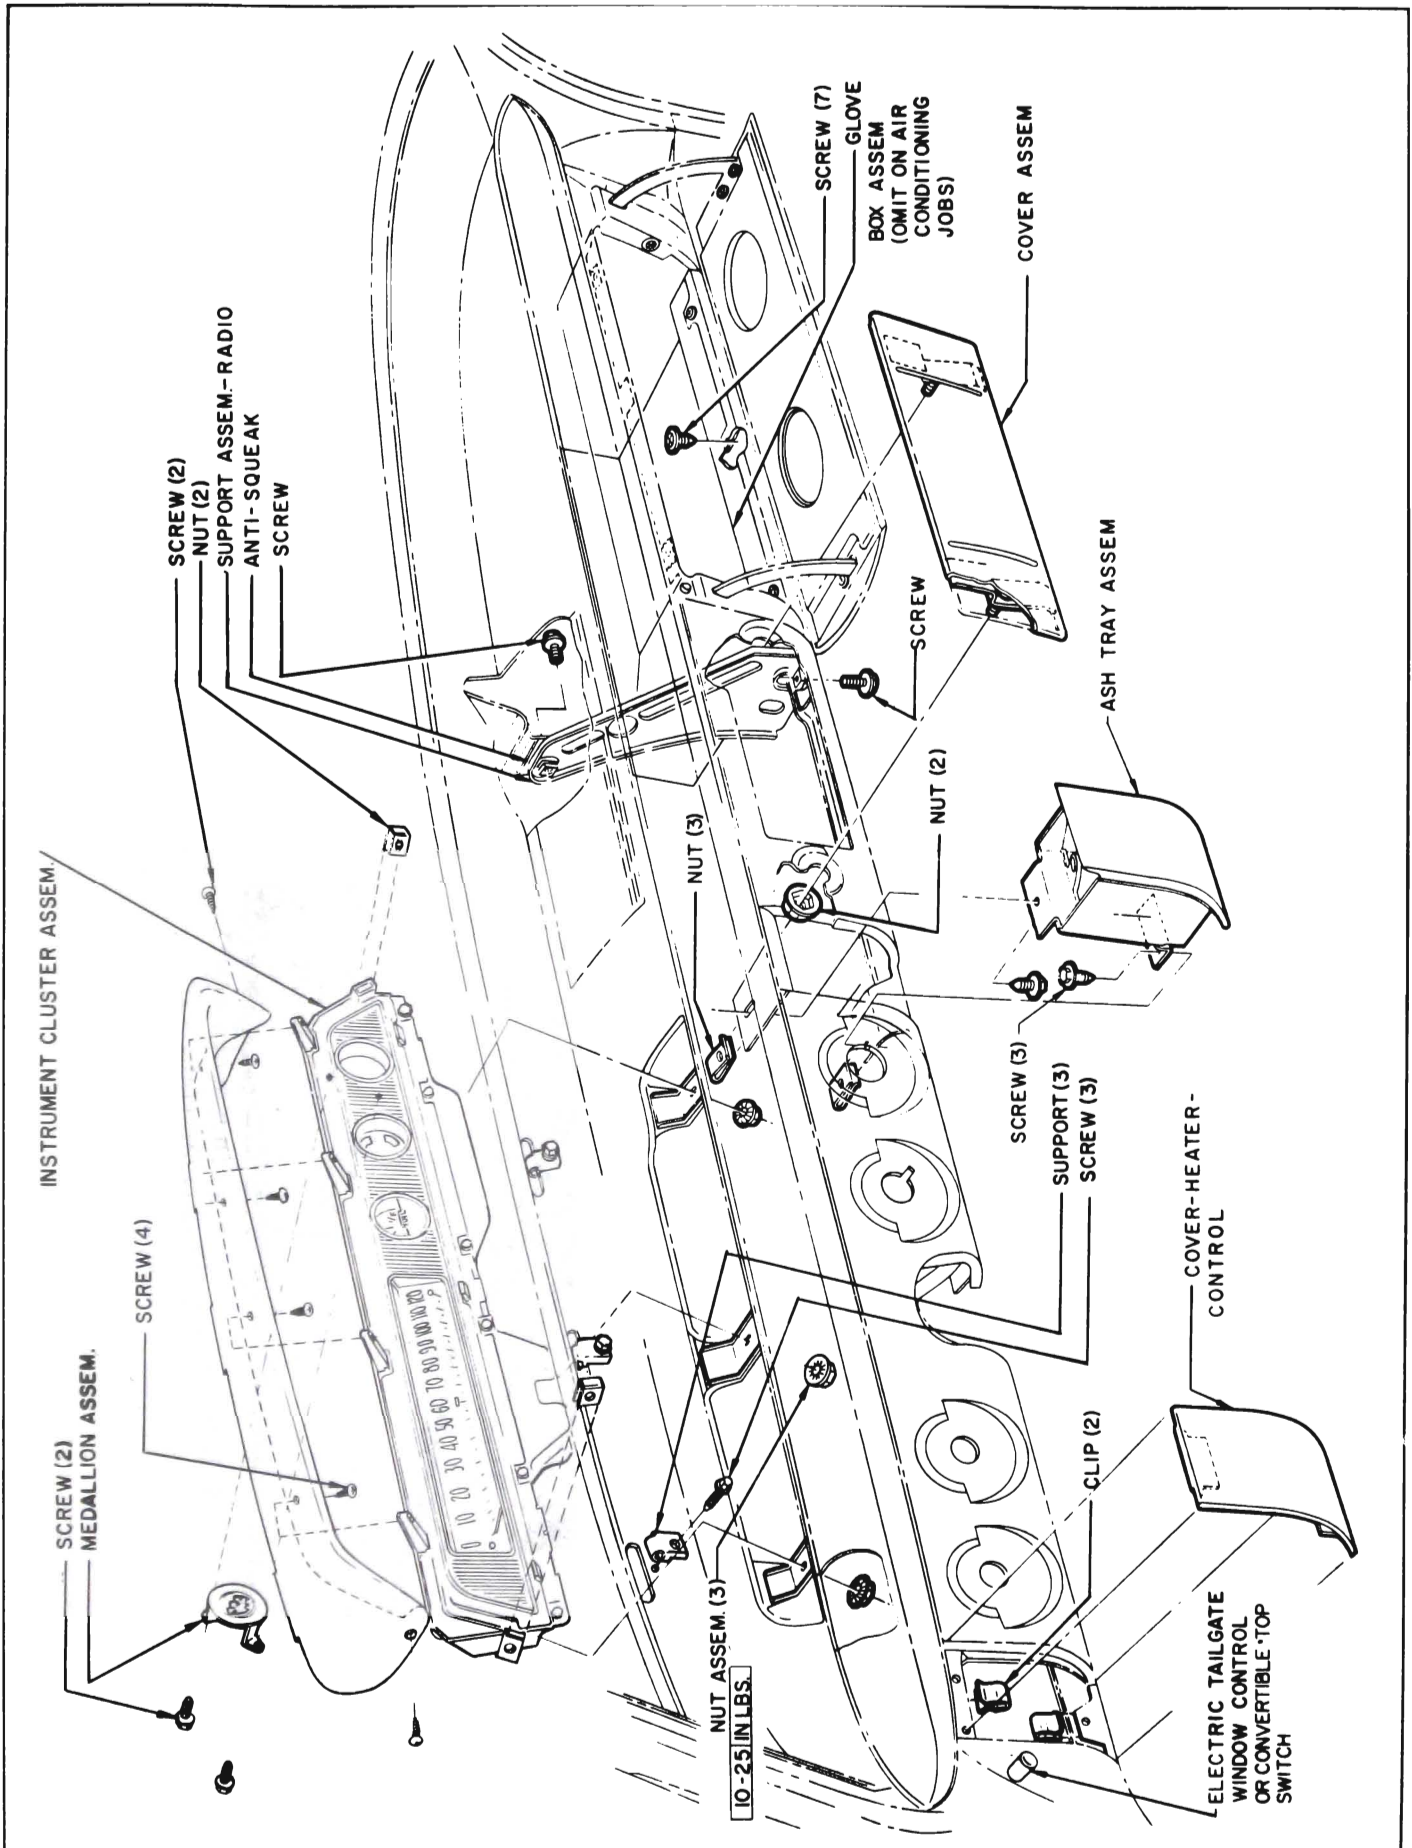

Figure 10-76—Instrument Cluster, Ash Tray and Glove Box Installation
1. Remove cluster hood and then from under instrument panel, remove the three nuts from the studs that retain cluster. See Figure 10-76.